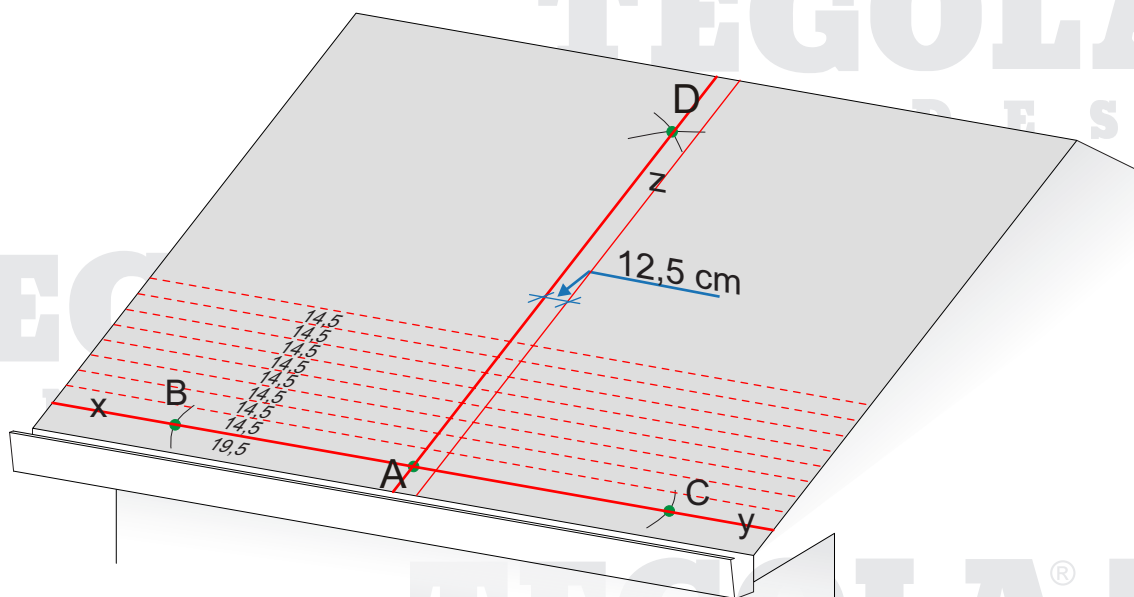

Fig. 1 - Marking out the roof
- " From each other up to the ridge (Fig. 1);